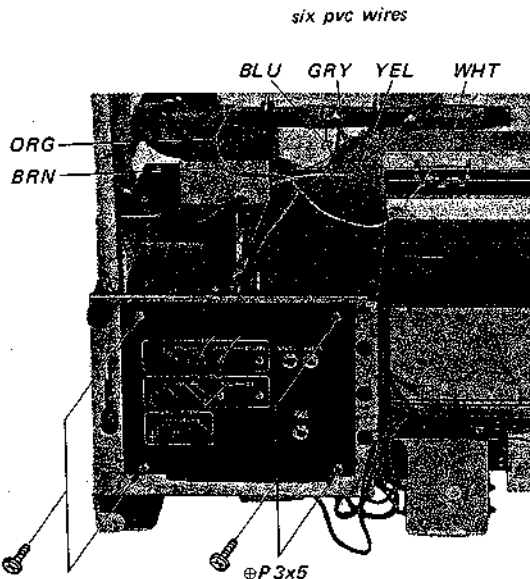
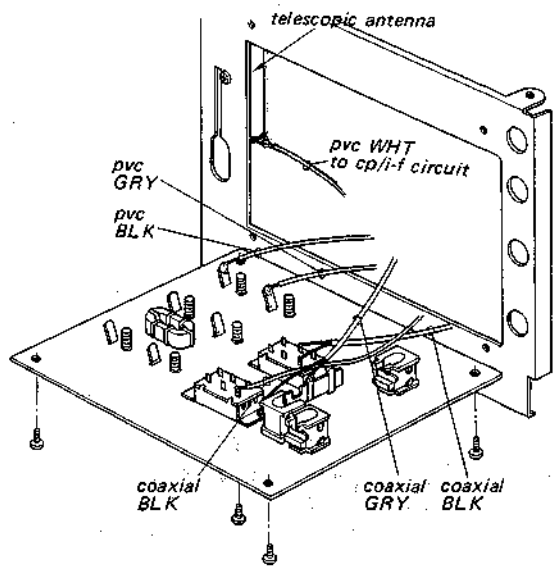

Fig. 2-10
Fig. 2-11
2. Unsolder the six lead wires at ferrite bar antenna as shown in Fig. 2-10.
3. Remove the four screws at the jack panel as illustrated in Fig. 2-10 and unsolder the six lead wires shown in Fig. 2-11.